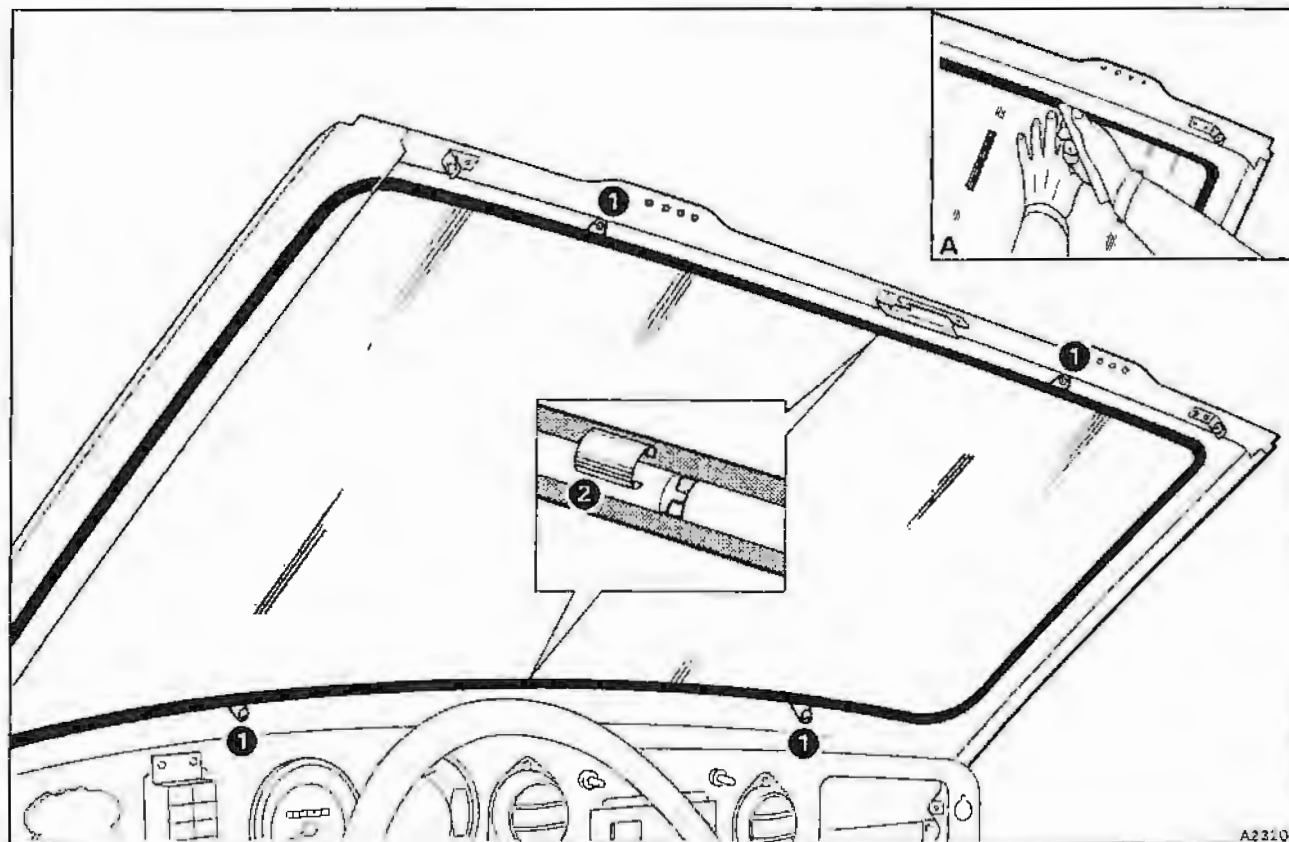

Fig. S24-2 Windscreen removal
7. Unscrew and remove the hood securing catches and polished finishers (item 5).
8. Unclip and remove the side header trim panels (item 6).
10. Remove the self-tapping screws (item 7) and lower the centre header trim panel.
11. Lift the 'A' post trim panels (item 8) to disengage the rear retaining clips and remove. Remove the top roll and demister panel (see Section S29).
12. *On cars conforming to a North American specification*, remove the self-tapping screws, setscrews, and washers securing the windscreen finisher retention plates to the body (see fig. S24-2, item 1).
13. From outside the car, carefully unclip the trim pieces (item 2) covering the windscreen finisher joints.
15. From inside the car, ease the lip of the seal over the body aperture flange (see fig. S24-2, inset A). A small steel rule or a similar tool will assist during this operation. Start in the top corners and work towards the centre, simultaneously applying pressure to the glass. An assistant will be required to support the glass/seal assembly as it is pushed out of the aperture. Avoid sharp blows as this may damage the glass or paintwork. A steady pressure is all that is required.